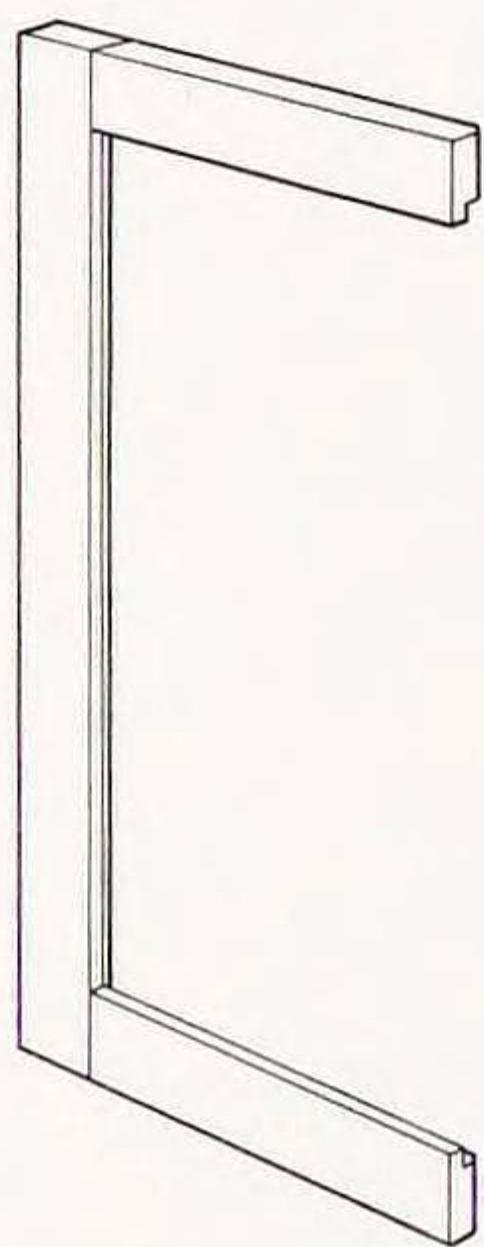

Fig. 3 Part of the door showing the rebates into which the glass will be set from the inside
5. Make the door (Fig. 3) using mortise and tenons and, as it will be glazed, make an internal rebate on the inside edges so that the glass can be inserted from the inside.